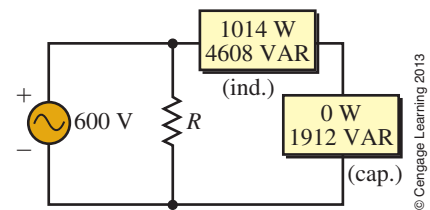

FIGURE 17-48
23. For Figure 17-48, $S_{\text{gen}} = 4835 \text{ VA}$. What is R ?